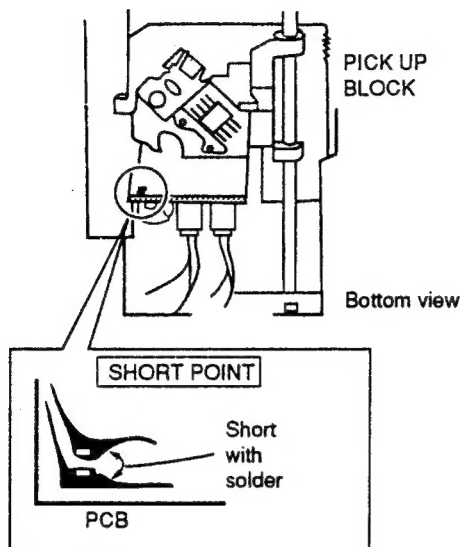

Fig. 3-1
- 2) Short the circuit on the PICK UP BLOCK with solder as shown in Fig. 3-1.
- 3) Disconnect the P200, P201, P202, P203 and P204 connectors on the TU-CD PCB. Be sure to short the shorting point on the PICK UP PCB before disconnecting the P200 and P201 connectors. (Refer to Fig. 3-1 on page 9.)
- 4) Remove the ⑧ screw and the five ⑨ screws of the TU-CD PCB, then remove the TU-CD PCB.